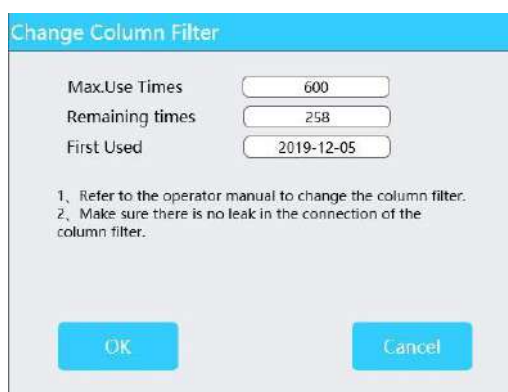

Figure 9-9
5. Click "Main."> " Filter"> "Replace" on the maintenance interface (Figure 9-9) , enter the max use times and set the number of used times to 0, then click "Yes", the software will automatically generate the first-used date.